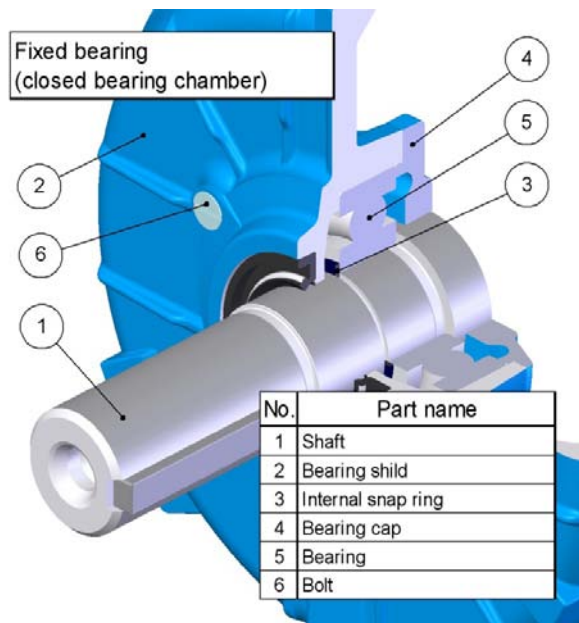

Fig. 9
Attention: For motors with a gripped bearing fig. 9 and 10, (also regards vertical motors), prior to the disassembly of the bearing it is necessary to:
- remove 3 screws mounting the bearing cover (4) and remove the rotor's spring clip (3) (this also regards motors with a closed bearing chamber - see fig. 9)